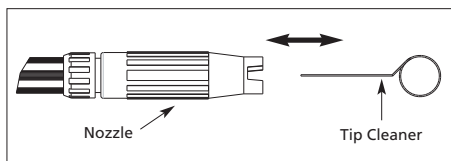

Figure 5
- Using the included tip cleaner, or an un-folded paper clip, insert wire into the nozzle hole and move back and forth until debris is dislodged (refer to Figure 5).